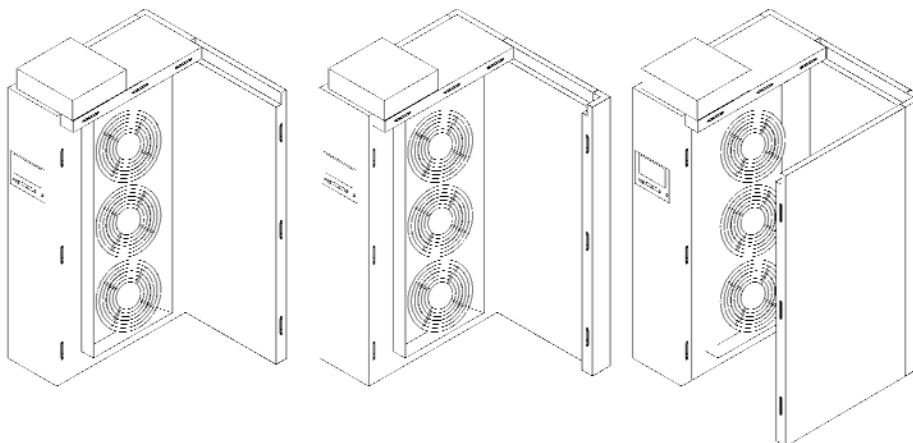

Fig 2
4. Assemble the remaining wall panels. (Fig. 2) Lock and seal each panel into place as per the 'Panel Assembly Instructions'. (Refer to page 4)